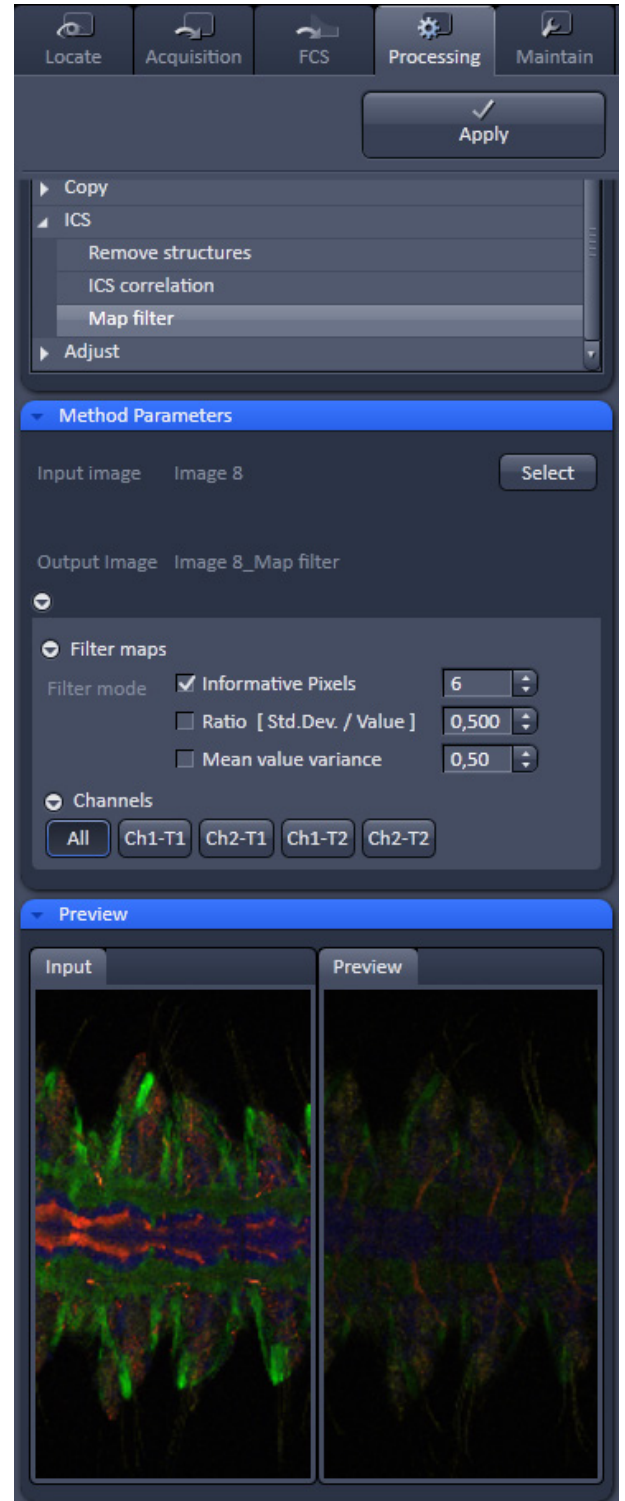

Fig. 545 Processing – ICS Map filter
- Activate **Map filter** in the **ICS** tool. The **Map filter** menu will appear (Fig. 545).